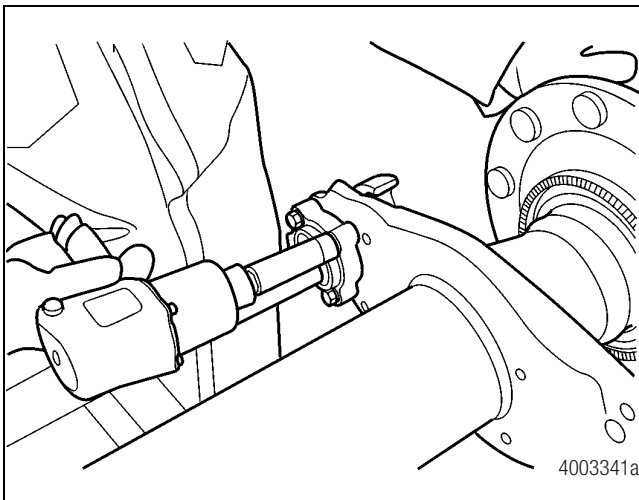

Figure 12.41
6. Tighten the four bolts to draw the bolt-on bushing into its seated position. Figure 12.41.